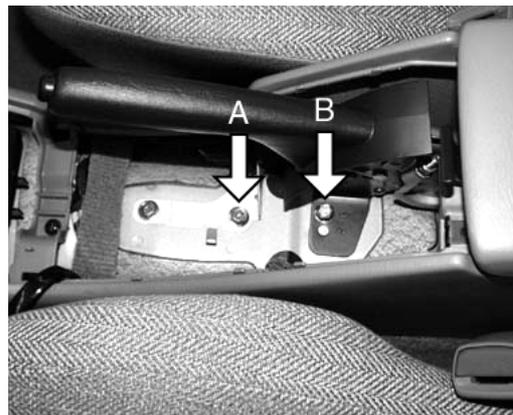

Figure 4
5. Remove and retain for reinstallation, the black M8 bolt indicated by the arrow "A" in Figure 4. Loosen the M8 bolt indicated by the arrow "B."